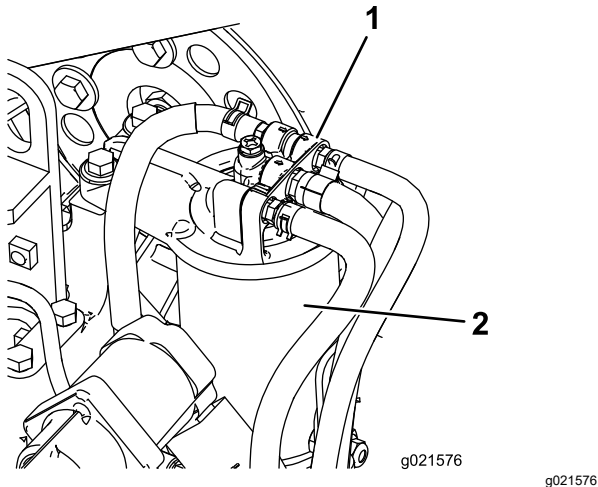

Figure 77
1. Clean the area around the fuel-filter head (Figure 77).
2. Remove the filter and clean the filter head mounting surface (Figure 77).